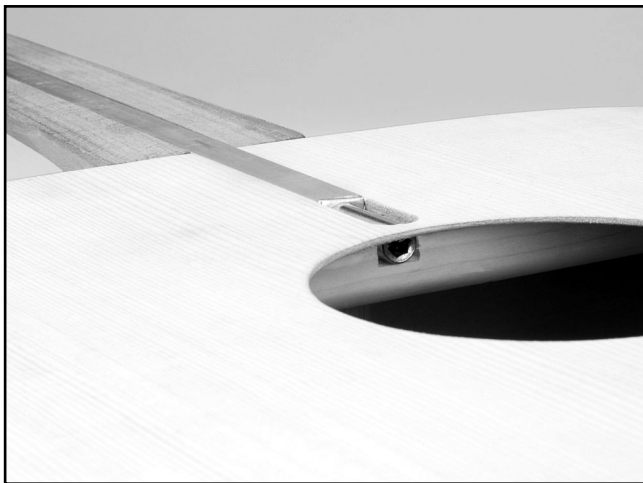

Figure 6. Correct truss rod position.
2. Using an epoxy glue, secure the truss rod into the truss rod channel so the truss rod cap screw head can be seen through the sound hole (**Figure 6**). Note—*Make sure the masking tape side of the truss rod faces down and that the surface of the truss rod is flush with the surface of the neck and body.*